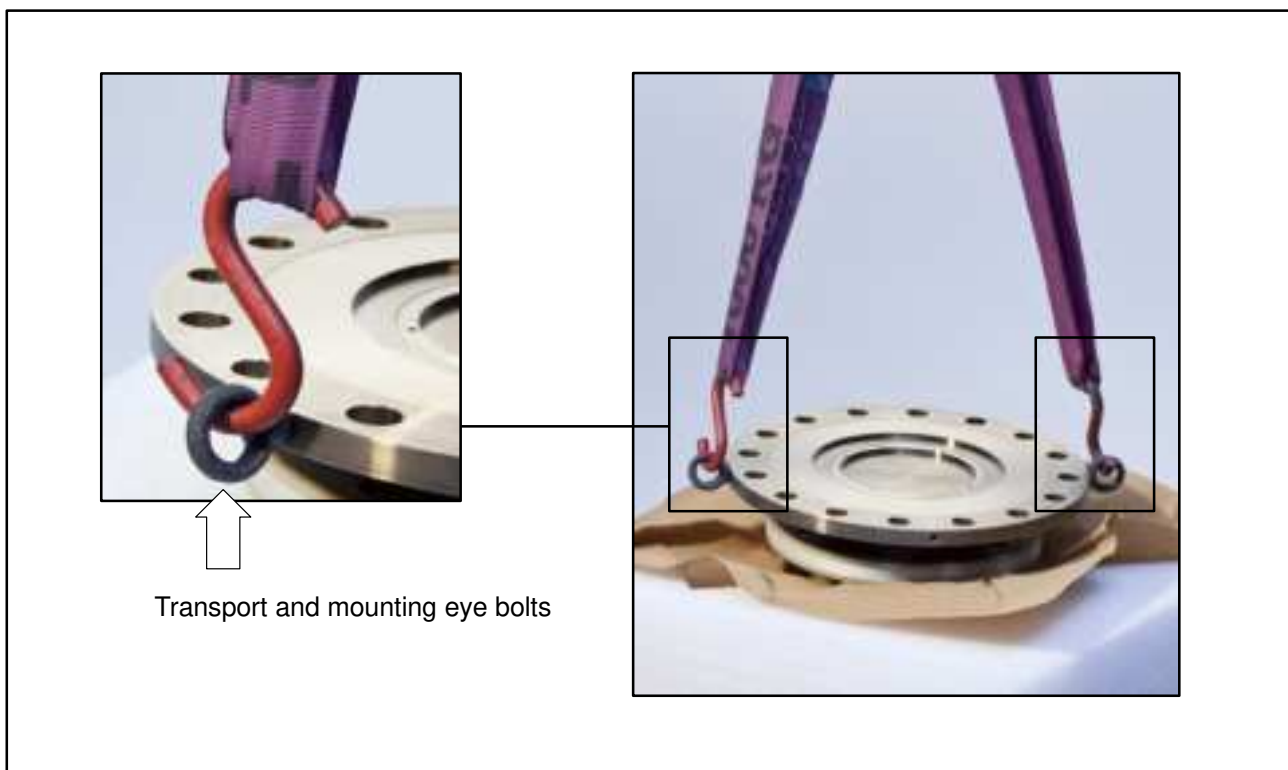

Fig 5.1: Transport and mounting eye bolts on the rotor
1. Lift the rotor out of the packaging, rotate horizontally by 180° , so that the bigger flange is pointing upwards (see exemplary Fig 5.1).
6. Carefully lift up the rotor and move it to the mounting position (see Fig 5.1).